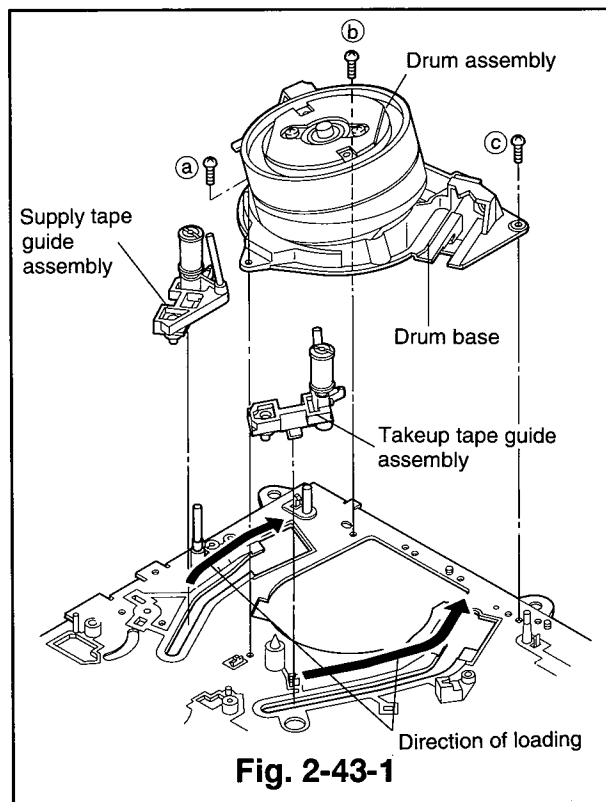

Fig. 2-43-1
- ① Remove the cassette housing. (Refer to Para. 2-1 for the removal method.)
- ② Remove the PCB-HEAD-AMP. (Refer to Para. 2-8 for the removal method.)
- ③ Remove the cleaning assembly. (Refer to item ④ of Para. 2-42 for the removal method.)
- ④ Unscrew the three screws (a, b and c) to remove the drum base together with the drum assembly. (Refer to Fig. 2-43-1.)
- ⑤ Slide the supply and takeup tape guide assemblies to the end of the loaded position by either of the following methods.
- Supply voltage (approximately 5V plus voltage on the red wire) to the loading motor as in ② of the removal method in Para. 2-19.
- ② Install the supply and takeup tape guide assemblies so that they respectively enter the holes at the ends of the loading arms (SP and TU) attached to the reverse side of the deck as shown in Fig. 2-43-1.
- ⑤ Install the drum base on which the drum assembly is attached and secure it with the three screws (a, b and c) as shown in Fig. 2-43-1. (Tighten the screws in the order a → b → c.)
- ⑥ Install the cleaning assembly. (Refer to Item ③ of Para. 2-42 for the installation method.)
- ⑦ Install the PCB-HEAD-AMP. (Refer to Para. 2-8 for the installation method.)
- ⑧ Install the cassette housing. (Refer to Para. 2-1 for the installation method.)